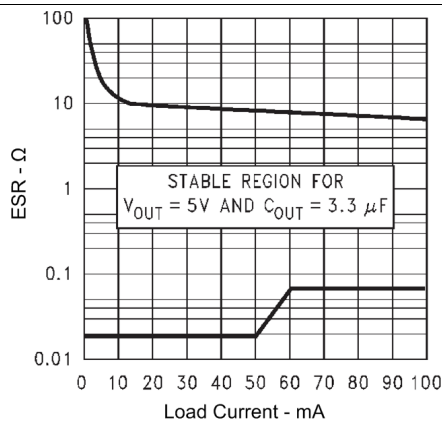
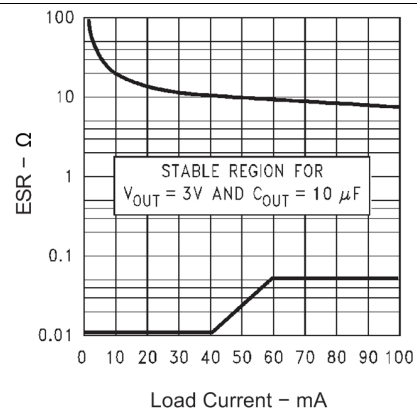

Figure 5. 5-V/3.3- μF ESR Curves
Figure 8. 3-V/10- μF ESR Curves
As a PNP regulator, the LP2981 requires the output capacitor to meet both a minimum capacitance and ESR value. Required ESR values as a function of load current are provided for various output voltages, load currents, and capacitances (see Figure 5 through Figure 8).
- ESR range: see Figure 5 through Figure 8